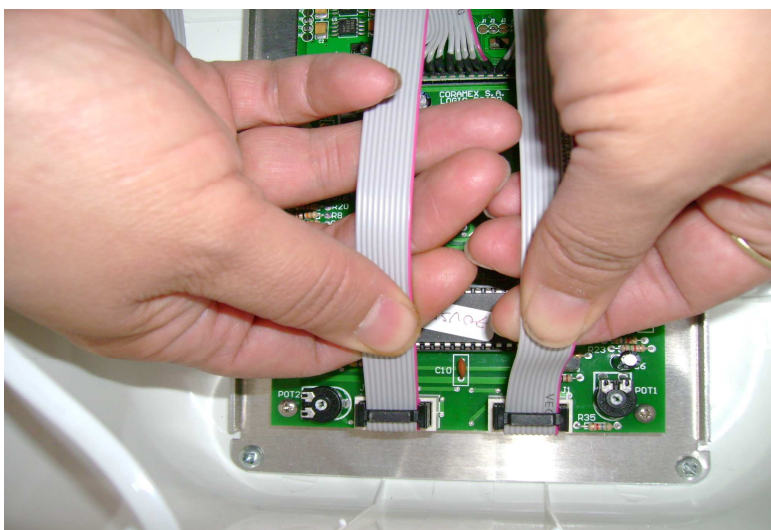

Fig. 3
- d) Check for the connections from the LCD board to the Logic Board (see Fig. 3).